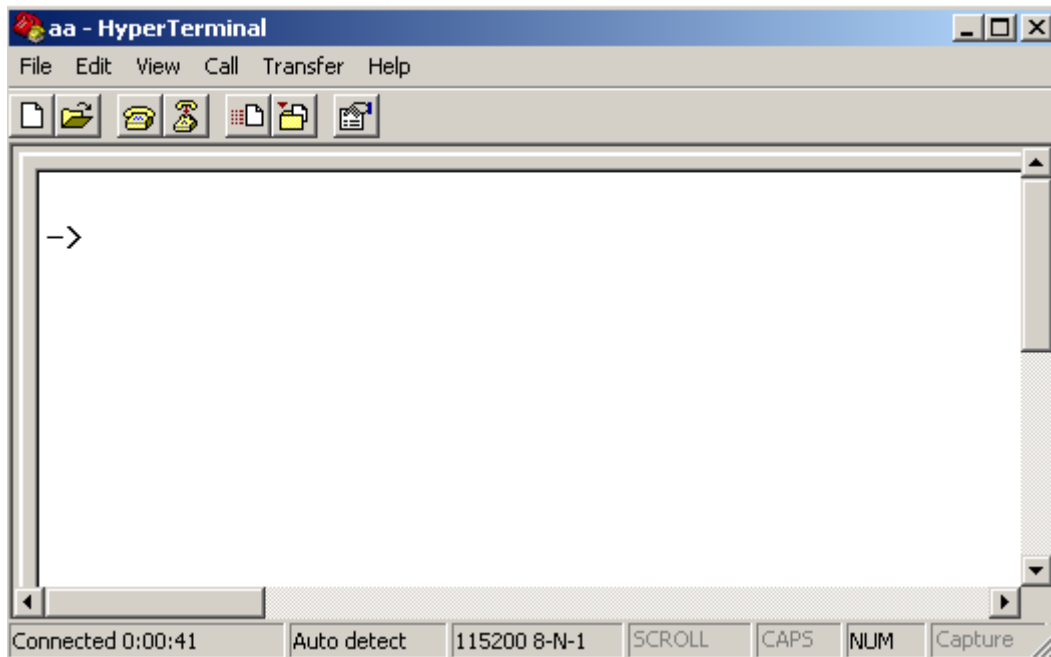

Fig. 3.1.7 Hyper Terminal command prompt
Step 2: Press “Enter” in Hyper Terminal, the prompt “—>” appear, as in Fig. 3.1.7. Under this prompt the following operation commands to accomplish the setup of the parameters.